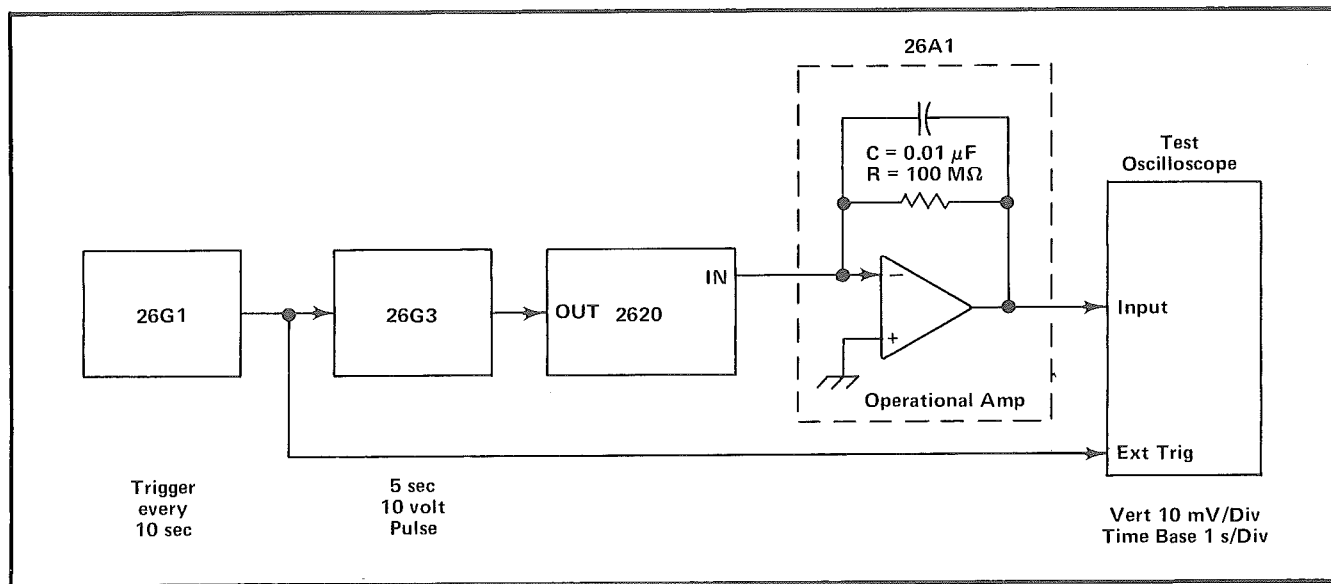

Fig. 5-1. Test setup for Step 4.
a. Set up a Trigger Generator, Pulse Generator, Operational amplifier, the 2620 Stimulus Isolator, and a Test Oscilloscope as illustrated in Fig. 5-1.